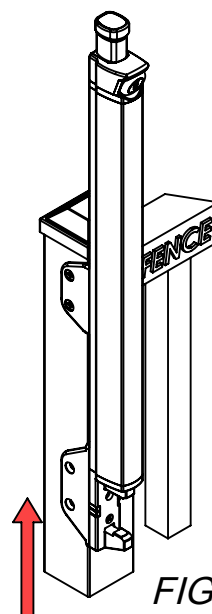

FIG. 4
2. Temporarily attach the Lower Bracket by holding it against the post and sliding it up into the Latch Body (Fig. 4). With the Latch at the PROPER HEIGHT, mark the Lower Bracket location on the Post.
3. Remove Latch Body and attach the Lower Bracket with the (4) supplied Countersunk mounting screws.